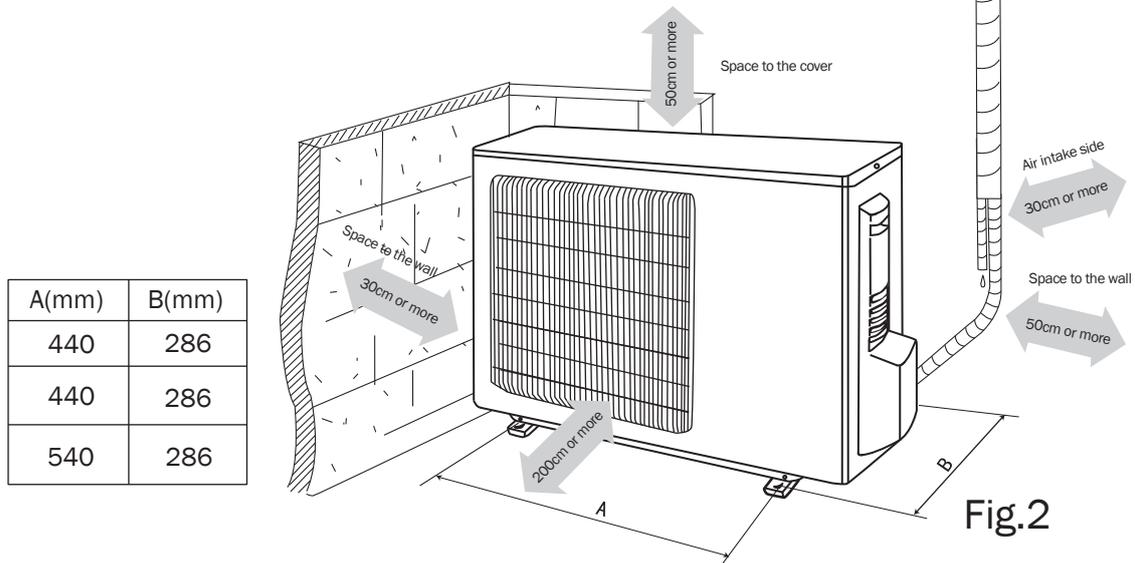

Fig.2
8. Be sure that the installation conforms to the installation dimension diagram (Fig.2).
6. Be sure that the installation confirms to the installation dimension diagram (Fig.2).